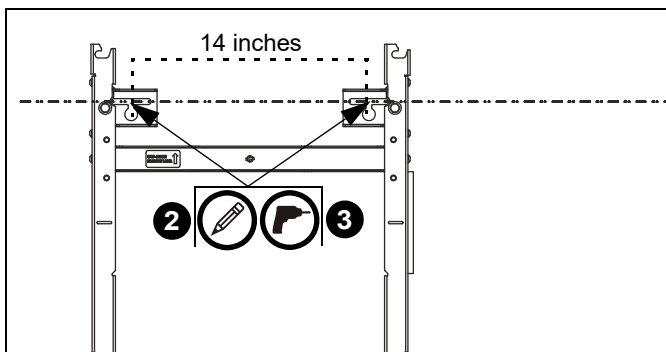

Figure 4
1. Hold furthest left, top wall mount against wall ensuring that mounting slot is lined up with center line marked on the wall in **Determining Installation Site** section. Double-check with a level. (See Figure 4)
2. Mark mounting holes in two top mounting slots along the horizontal line marked in Step 3. (See Figure 4)
NOTE: The mounting holes are 14" apart. (See Figure 4)
3. Drill two pilot holes (see Table 1 for size) at each location marked in Step 2 (See Figure 4) and follow fastener information (appropriate for wall type) located in Table 1.